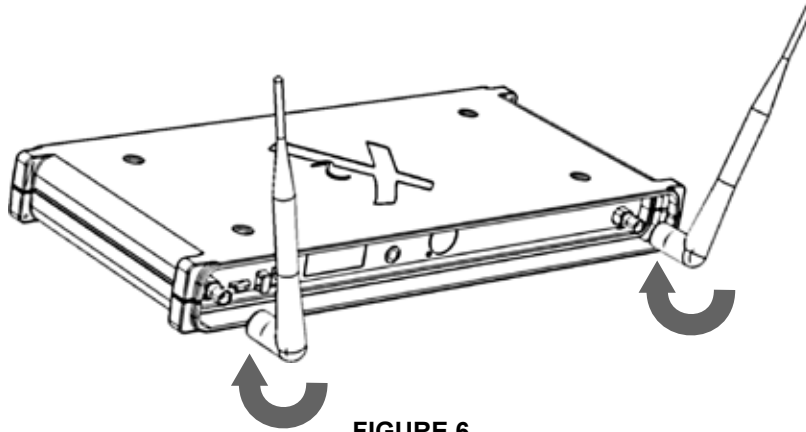

FIGURE 6
1. Connect the supplied 1/2 wave antenna by pressing on the BNC connector and twisting clockwise for ~1/2 turn as shown in figure 6. NOTE: Antenna inputs ARE NOT DC biased